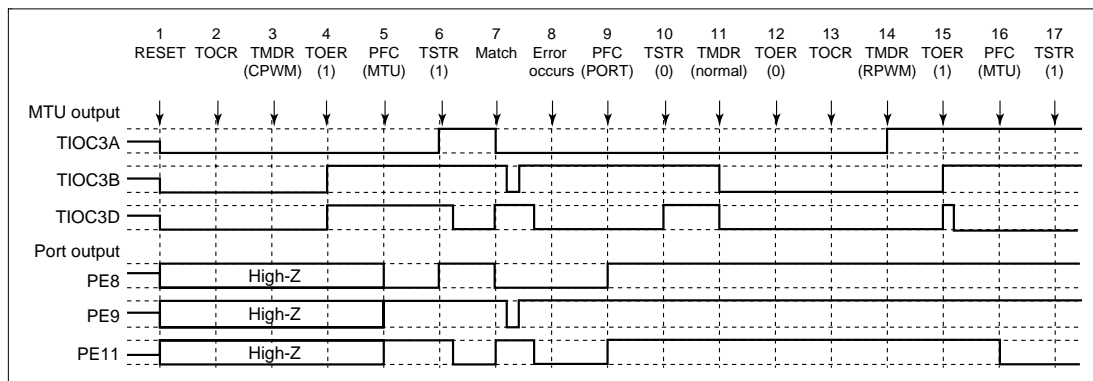

Figure 12.120 Error Occurrence in Complementary PWM Mode, Recovery in Reset-Synchronous PWM Mode
(24) Operation when Error Occurs during Complementary PWM Mode Operation, and Operation is Restarted in Reset-Synchronous PWM Mode: Figure 12.120 shows an explanatory diagram of the case where an error occurs in complementary PWM mode and operation is restarted in reset-synchronous PWM mode.